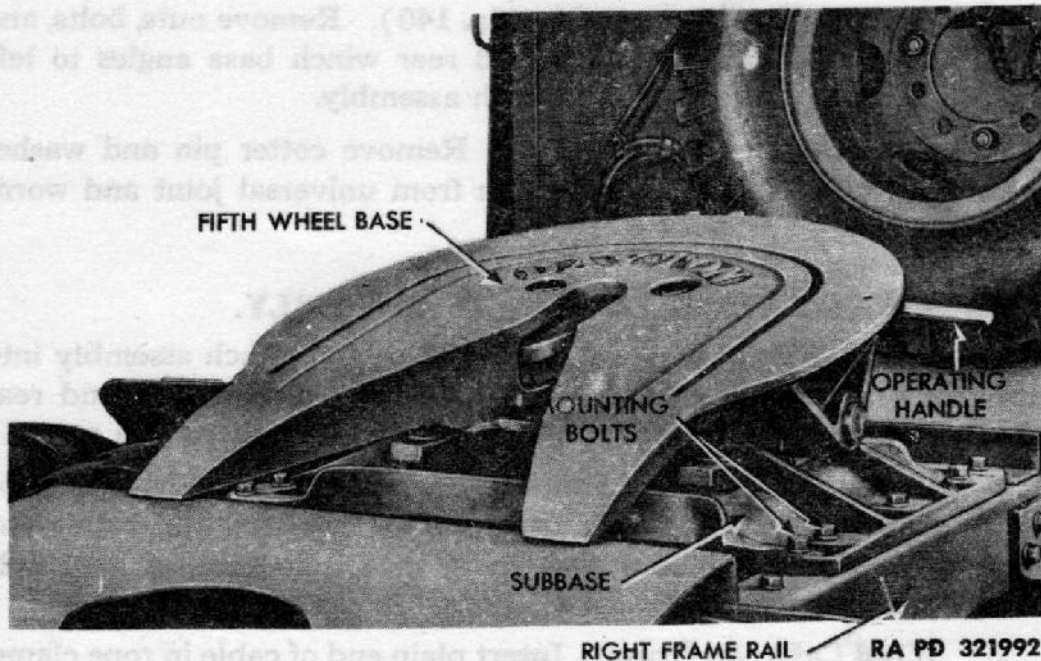

Figure 141 - Fifth Wheel Installed
a. **Description** (fig. 141). The fifth wheel is bolted to the frame side rails at the rear of the truck. It is used to couple the tractor and trailer together. The wheel is a swivel-mounted, flat, round steel plate. The rear half of plate forms a V-shaped opening which serves to guide the kingpin neck of the trailer coupling to the coupler jaws at the center of the plate. Contact of neck snaps the jaws shut, and releases a lever handle to position which locks jaw shut. Disengagement is made by swinging the lock latch aside and pushing operating lever toward front of vehicle until safety latch drops in place. This opens jaws, and permits tractor to be pulled from trailer.
203. REMOVAL (fig. 141).
207. INSTALLATION (fig. 141).